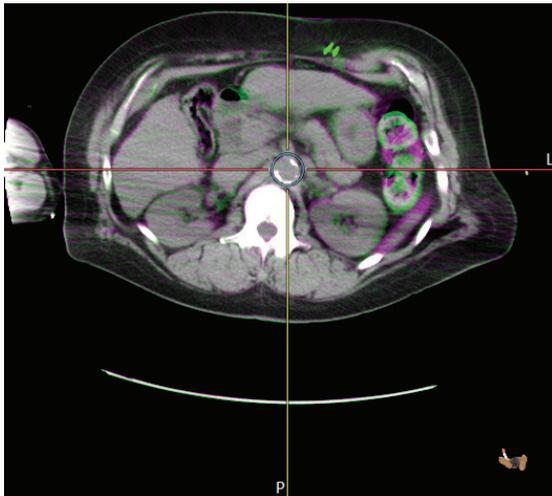

Figure 3-15: Edit registration
6. Manual adjustments to the registration can be made using the Edit Registration tool. Once the Edit Registration tool is selected, vertical and horizontal axis lines and a circle will be drawn on the series images (see Figure 3-15). The circle will be centered around the current reference point.